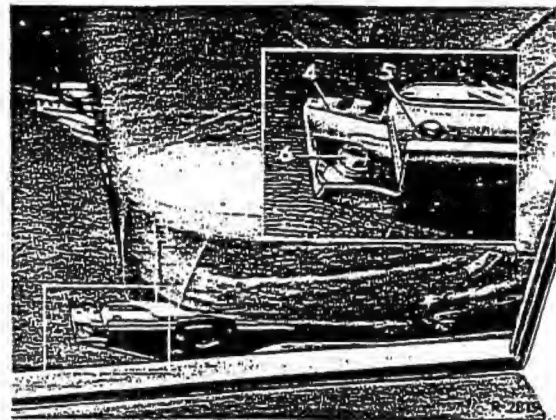

Fig. 91-1/2
2. Detach the tension spring (1) by means of Hook 100 589 01 59 00 (2).
3. Turn out both rear fixing screws (3).
4. Move the seat adjusters rearward as far as the stop (Fig. 91-1/2).